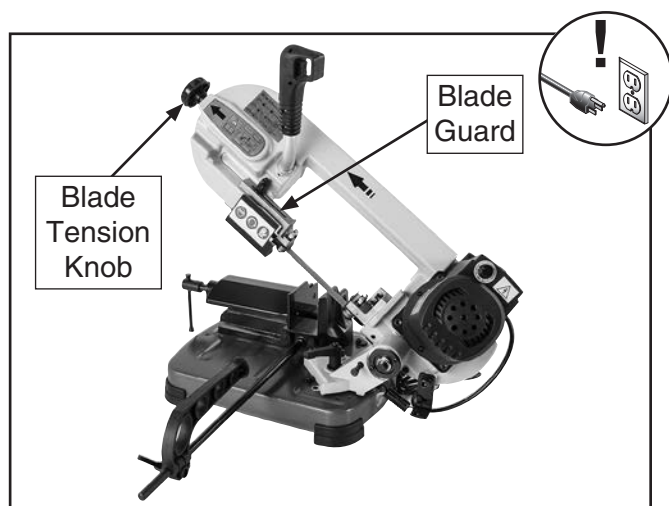

Figure 18. Location of left blade guide arm.
2. Loosen and slide blade guard and blade guide bearing assemblies (see **Figure 18**) as far left as they will go, then secure.
3. Turn tension knob shown in **Figure 18** clockwise to tighten blade or counterclockwise to loosen blade.